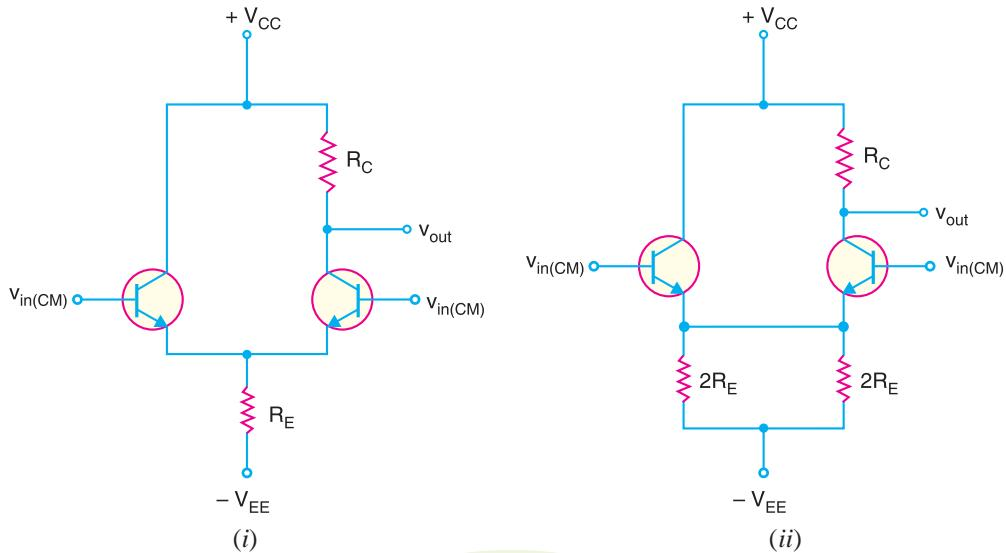
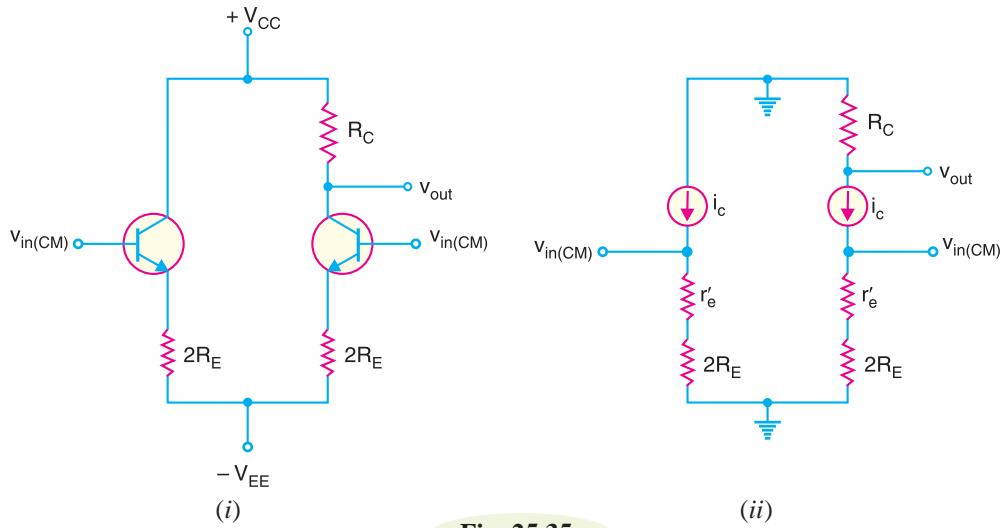

Fig. 25.34
Fig. 25.35
The common-mode signals are equal in amplitude and have the same phase. Fig. 25.34(i) shows the common-mode operation of a differential amplifier (DA). Note that the same input voltage,  $v_{in(CM)}$  is being applied to each base. Ideally, there is no a.c. output voltage with a common-mode input signal. It is because a differential amplifier is designed to respond to *the difference between two input signals*. If there is no difference between the inputs, the output of DA is zero. In practice, the two halves of the differential amplifier are never completely balanced and there is a very small a.c. output voltage for the common-mode signal.
The circuit shown in Fig. 25.34(i) can be redrawn as shown in Fig. 25.34(ii). In this equivalent circuit, the two parallel resistances of  $2R_E$  produce an equivalent resistance of  $R_E$ . Therefore, this equivalent circuit will not affect the output voltage. Assuming identical transistors, the two emitter currents will be equal and produce the same voltage across emitter resistors. Therefore, there is no current through the wire between the emitters. We can remove this wire and the circuit becomes as shown in Fig. 25.35 (i).
**A.C. equivalent circuit.** To get the a.c. equivalent circuit, we can reduce both supply voltages to zero i.e., we ground each supply point. Replacing the transistors by their a.c. equivalent circuits, we get a.c. equivalent circuit of differential amplifier for common-mode operation as shown in Fig. 25.35 (ii). We can derive the voltage gain of an \*unbypassed CE circuit. Here we will use  $2R_E$  in place of  $R_E$ .